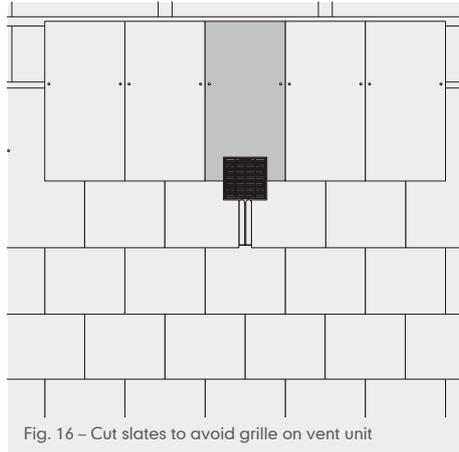

Fig. 16 – Cut slates to avoid grille on vent unit
- 6 Lay the next course of slates, cutting the slate directly above, to neatly abut the ventilator grille, as required. Inspect the junction security of the ventilating unit and adjacent slating before laying further courses. (Figs. 16 and 17). Continue slating in the normal manner.